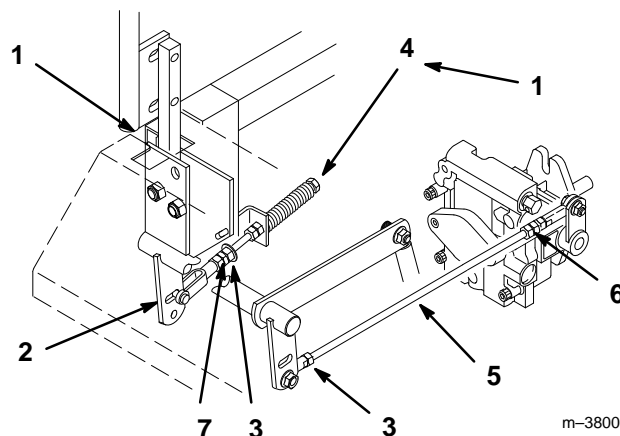

Figure 40
2. Begin with either the left or right motion control lever. Move lever to the neutral (but not locked) position and pull lever back until the clevis pin (on arm below pivot shaft) contacts the end of the slot (just beginning to put pressure on spring) (Fig. 40).
3. Check where lever is relative to notch in console (should be centered allowing lever to pivot outward to the neutral lock position) (Fig. 40).
12. Loosen locknut at ball joint on pump control rod (Fig. 40).
13. Adjust pump rod length by rotating double nuts on rod, in the appropriate direction, until wheel is still or slightly creeps in reverse (Fig. 40).